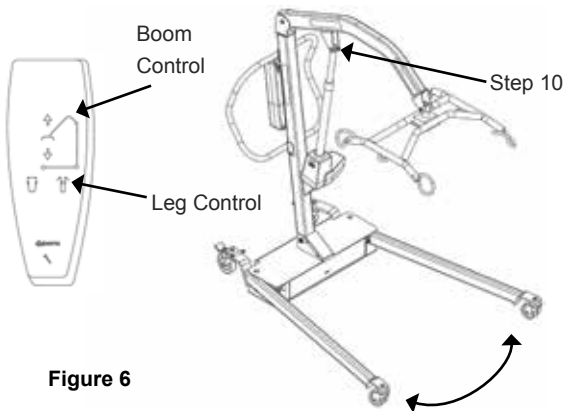

Figure 6
10. Align the upper end of the lifter actuator and boom actuator mounting bracket (Figure 6). Insert the pin. Install the key ring fastener.
- The legs of the lift open and close satisfactorily (This is done via the hand control) (Figure 6).